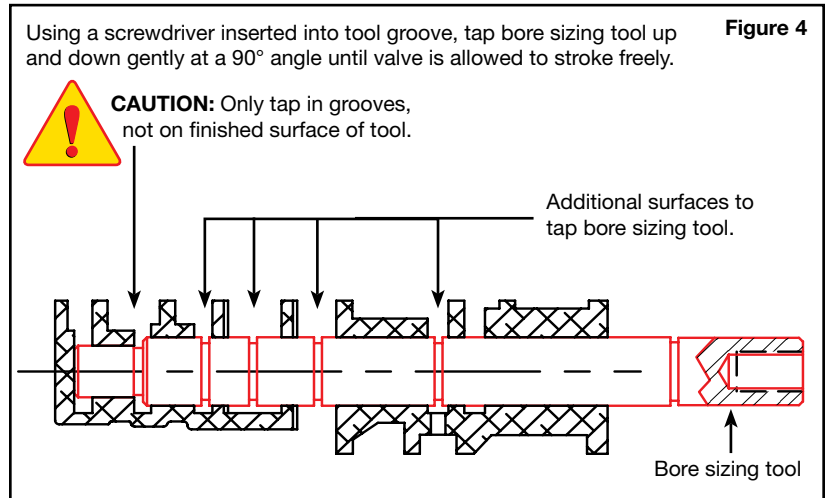

Figure 4
- If Sonnax valve and/or sleeve do not move freely, reinstall bore sizing tool and tap tool back and forth using a hammer and screwdriver inserted through the ports and into tool grooves (Figure 4). Repeat process until valve strokes freely.